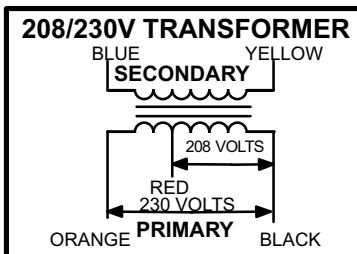

FIGURE 8
All TSA models use a single line voltage to 24VAC transformer mounted in the control box. Transformer T1 supplies power to control circuits in the TSA unit. The transformer is rated at 70VA and is protected by a 3.5 amp circuit breaker (CB8). CB8 is internal to the transformer. The 208/230 (Y) voltage transformers use two primary voltage taps as shown in figure 8, while 460 (G) and 575